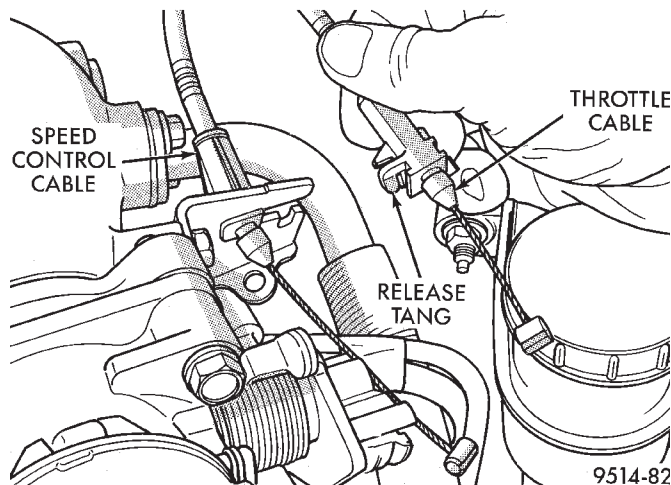

Fig. 43 Throttle Cable Attachment
- (2) Push release tang toward dash panel on throttle cable and slide cable out of bracket (Fig. 43).